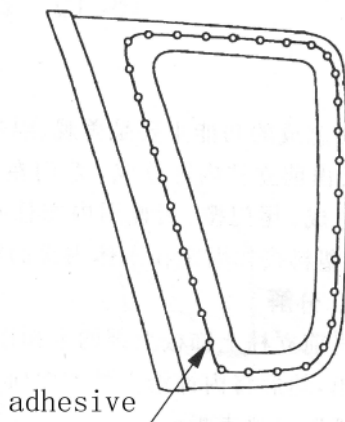

Fig. 18-32
- (1) Cleaning the adhesive surface of glass and body, and dry it more than 10 minutes.
- (2) Painting the primer on the body sufficiently, and dry it more than 10 minutes.
- (3) Cleaning the match surface of glass by cloth. If you have used organic impregnate, dry it more than 10 minutes.
- (4) Painting the primer on the matching surfaces sufficiently on the glass, see Fig.18-32, (the connected line is the center of adhesive.) and dry it more than 10 minutes.